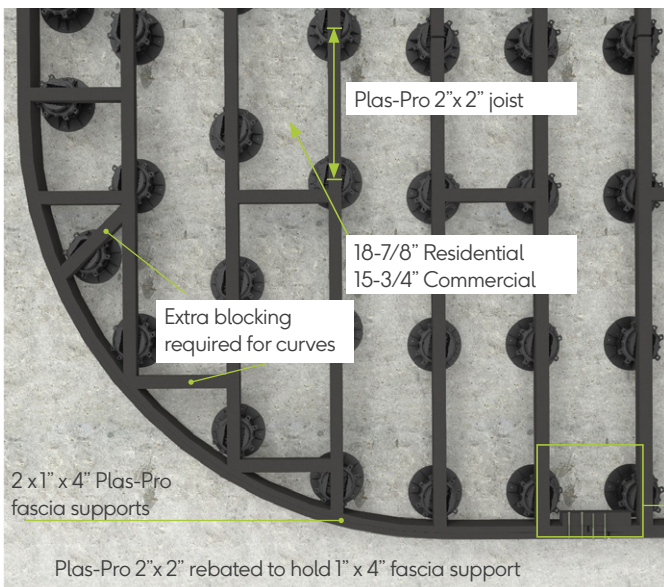

Fig. 33 - Brick bond blocking
- a. Blockings should be set to a brick bond pattern at 48" centers $\pm$ 4". (fig. 33)
- c. Curved frames will require extra noggins: see fig. 33